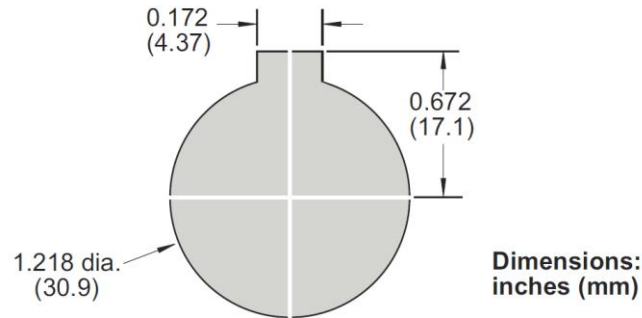

Figure 2-27. Selector Switch: Cutout Dimensions
2. Cut holes in your enclosure or console for the selector switches, referring to Figure 2-27 for cutout dimensions. Dimensions are the same for all switches.